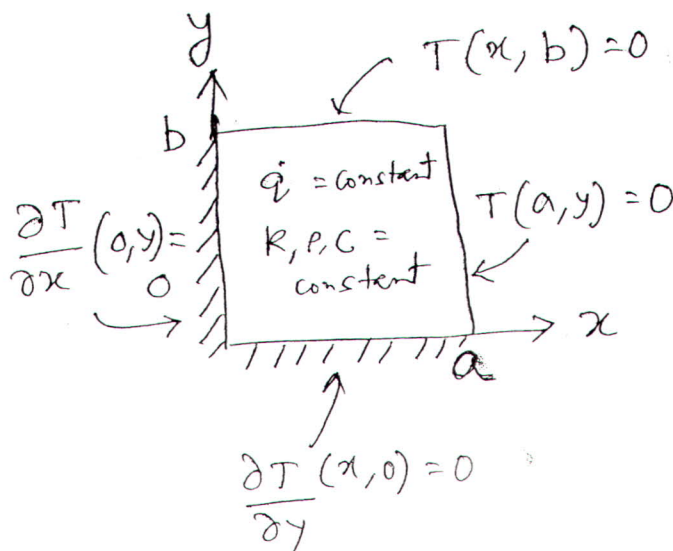

Fig. 1
5. Consider the heat conduction in a rectangular bar as shown in cross-section in Fig. 1. Internal energy is generated in this bar at a constant rate  $\dot{q}$  per unit volume ( $\text{W/m}^3$ ). The boundary conditions are shown on the figure itself. There is no temperature gradient in  $z$ -direction and the thermo-physical properties of the material of the bar may be considered as constant. Determine the steady-state temperature distribution  $T(x,y)$  in the bar by